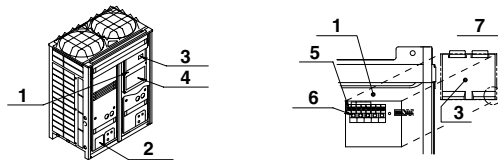
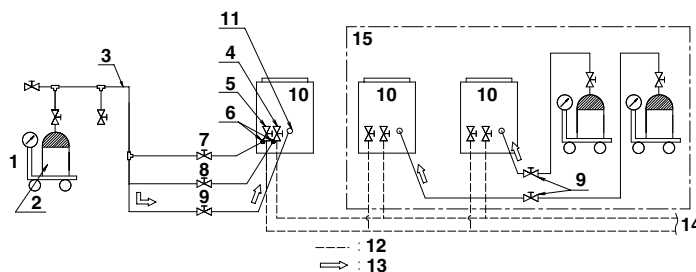

fig. 32
fig. 33
4. Perform the refrigerant charging operation following [Refrigerant charging operation procedure] as shown below, and charge the remaining refrigerant of the “additional charging amount”. For performing the refrigerant charging operation the push button on the PC-board (A1P) of outdoor unit (In case of multi system master unit) are use. (See the figure 32) In addition, the refrigerant are charged from the refrigerant charge port via the valve A. (See the figure 33)
The refrigerant will be charged about 22kg in one hour at outdoor temp. 30°C DB (6kg at 0°C DB). If you need to speedup in case of multi system, connect the refrigerant tanks to each outdoor unit as shown in the figure 33.
- (1) Open the liquid and gas side shutoff valves (The valve A~C must be closed. The valve A~C means the valves in the figure 33.)